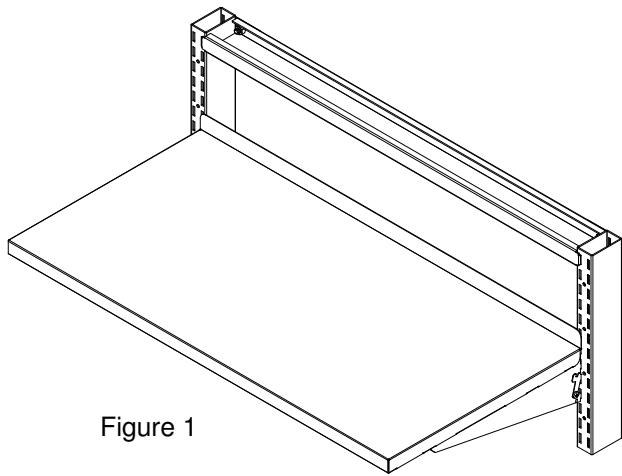
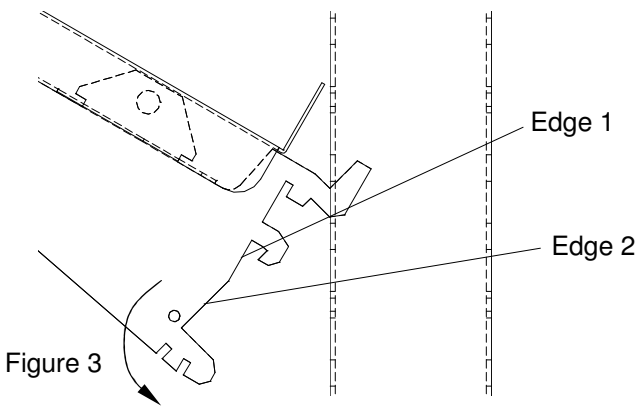
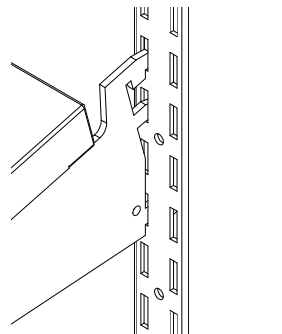

Figure 1
Figure 3
Figure 4
2. Insert top tabs of mounting brackets into inner slots on posts at height desired and rotate downwards until either edge 1 (for flat shelf) or edge 2 (for angled shelf) touches the front of the post, Figure 3. Figure 4 shows an angled shelf and Figures 1 and 5 show a flat shelf.